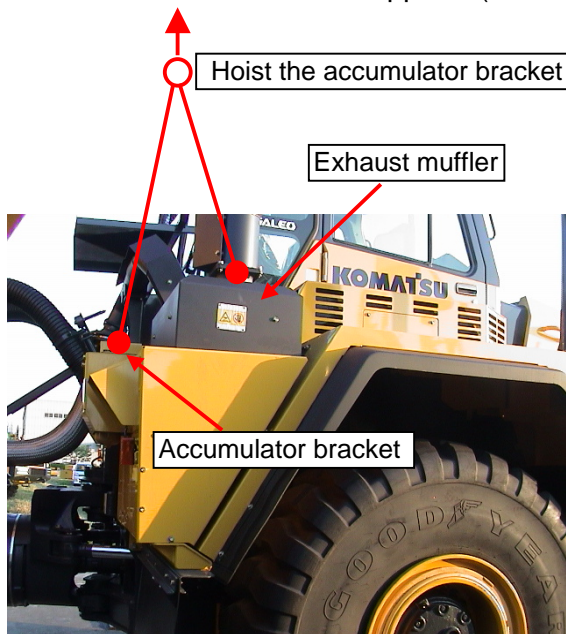

Fig. 7
- 3-5. Hoist both the accumulator bracket and the exhaust muffler together to a height where the fender comes over the fender mount section slightly. (Refer to Fig. 7)